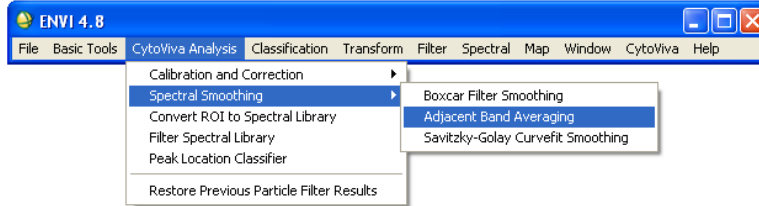

Figure 1. CytoViva Analysis Tab
2. In the tool bar, click the CytoViva Analysis tab, click Spectral Smoothing, then select the Adjacent Bands Averaging. (Figure 1).